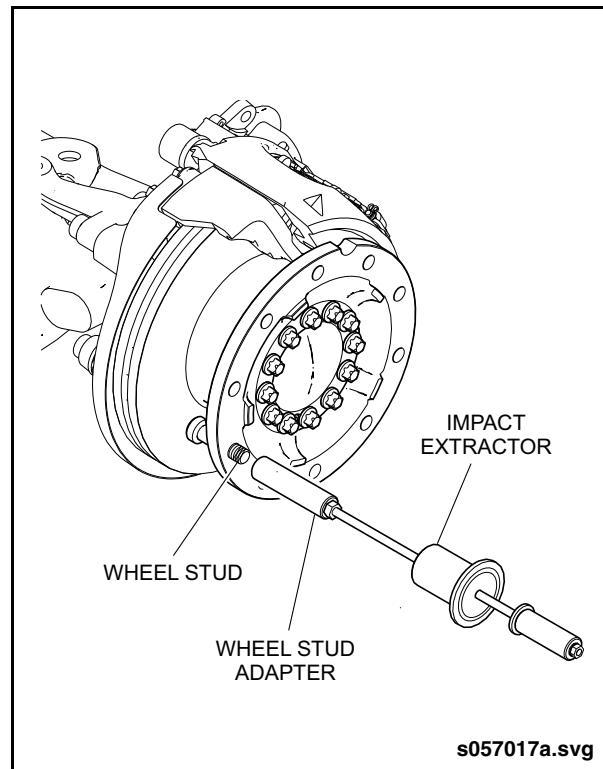

Fig. 1-7: Wheel Bolt Installation
1. Insert a new wheel bolt with the truncated end facing the wheel hub. See “Fig. 1-7: Wheel Bolt Installation” on page 9.